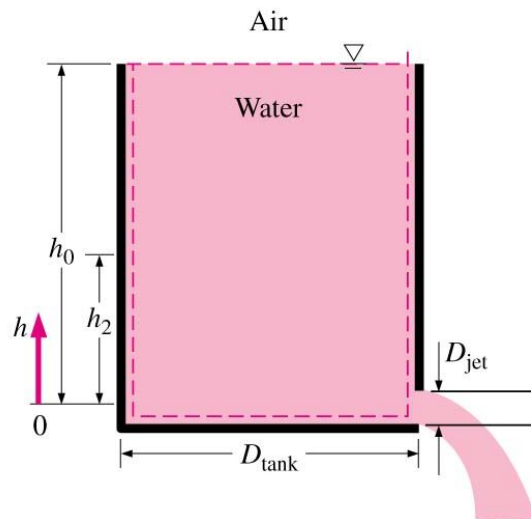

Figure 5
- (b) Torricelli's law describes the flow velocity of fluid discharging from a reservoir. The law is a canonical example of the Bernoulli equation's application. **Figure 5** shows a typical water reservoir, with D_{tank} as the diameter of the reservoir, D_{jet} as the diameter of discharging water jet and h_0 as the maximum water level. The water level reference axis is given as h . For this question, your solution should be in the algebraic form only.